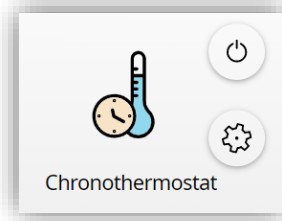

Figure 84. Chronothermostat box
- **Enablement** [0 = Disable; 1 = Enable / 0 = Enable; 1 = Disable]: selects the polarity of the control object “[Ci] Chronothermostat: Enable”, which will enable or disable the chronothermostat analogously as from the on-screen switch button of the box (see Figure 84). The box configured as a chronothermostat control looks as follows: